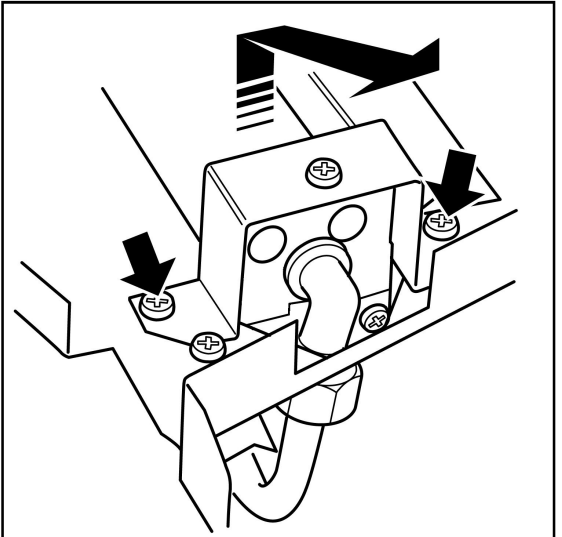

Figure 29. Removal of burner
(See figure 29).
3. Remove the two screws from the burner clamping plate (See figure 29)